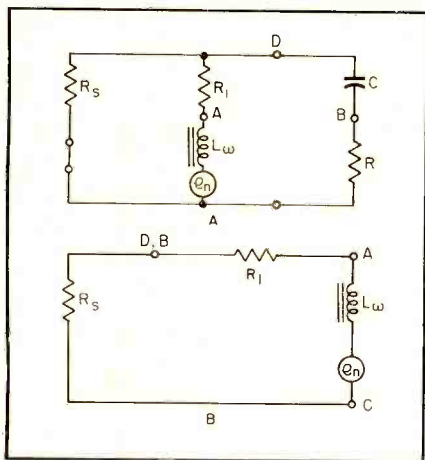

Fig. 4. Bridge of Fig. 3 driven by generator of finite source impedance. (A) actual circuit, and (B) equivalent circuit.
Let it be supposed that the balanced bridge set-up driven from a pure tone source, of impedance R_S , is indicating an harmonic voltage across AB. The reading across AB can be considered as due to a fictitious generator of harmonics in series with L ; as the source E does not affect the voltage across AB under balanced conditions it is short-circuited, giving the equivalent circuit of A in Fig. 4.
(1) with respect to a voltage introduced as at e_n the voltage across AB is almost the same as the voltage across AD. This is easily seen by drawing the vector diagram of the various voltages.
(2) The arm CBD can therefore be completely omitted. A of Fig. 4 then reduces to e_n applied to L , R_1 , and R_S in series. The indicated harmonic voltage is the voltage across R_1 . In general, voltage across R_1 is $\frac{R_1}{(R_S + R_1) + j\omega L} \times e_n$